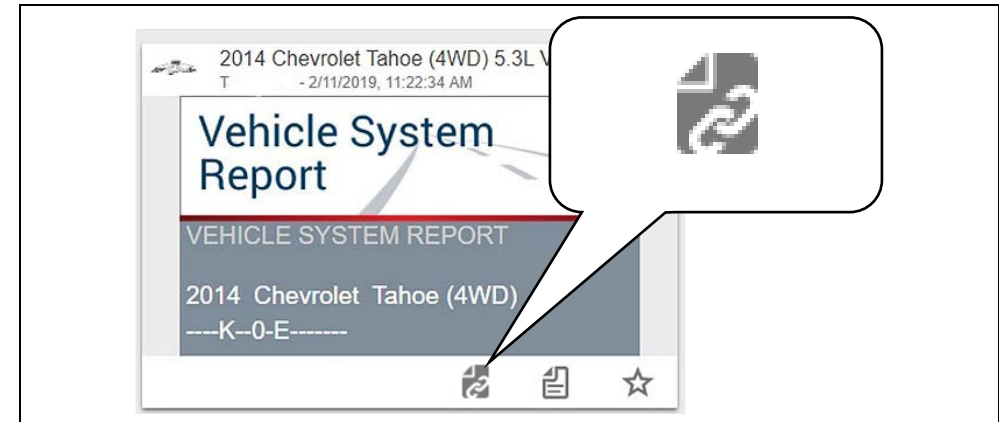

Figure 17-18
1. From Shop Files, select the **Copy icon** (Figure 17-18) on the file card.